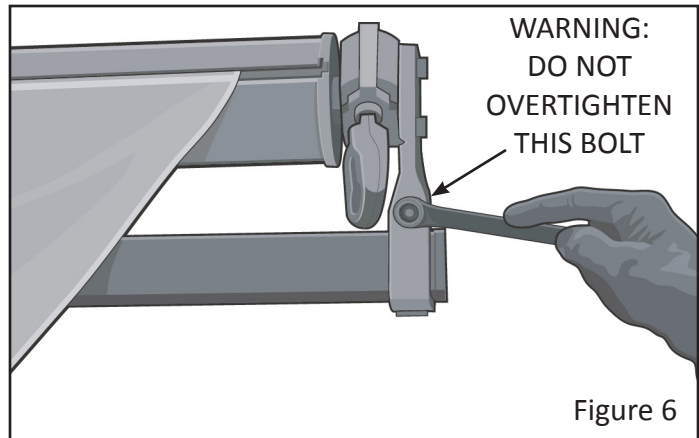

Figure 6
**WARNING: DO NOT OVERTIGHTEN THIS BOLT. OVER TIGHTENING THIS BOLT CAN CRACK THIS STRUCTURAL BRACKET AND CAUSE THE ROLLER BAR AND FABRIC TO BE SEPARATED AND FALL FROM THE AWNING ASSEMBLY! See Figure 6.**